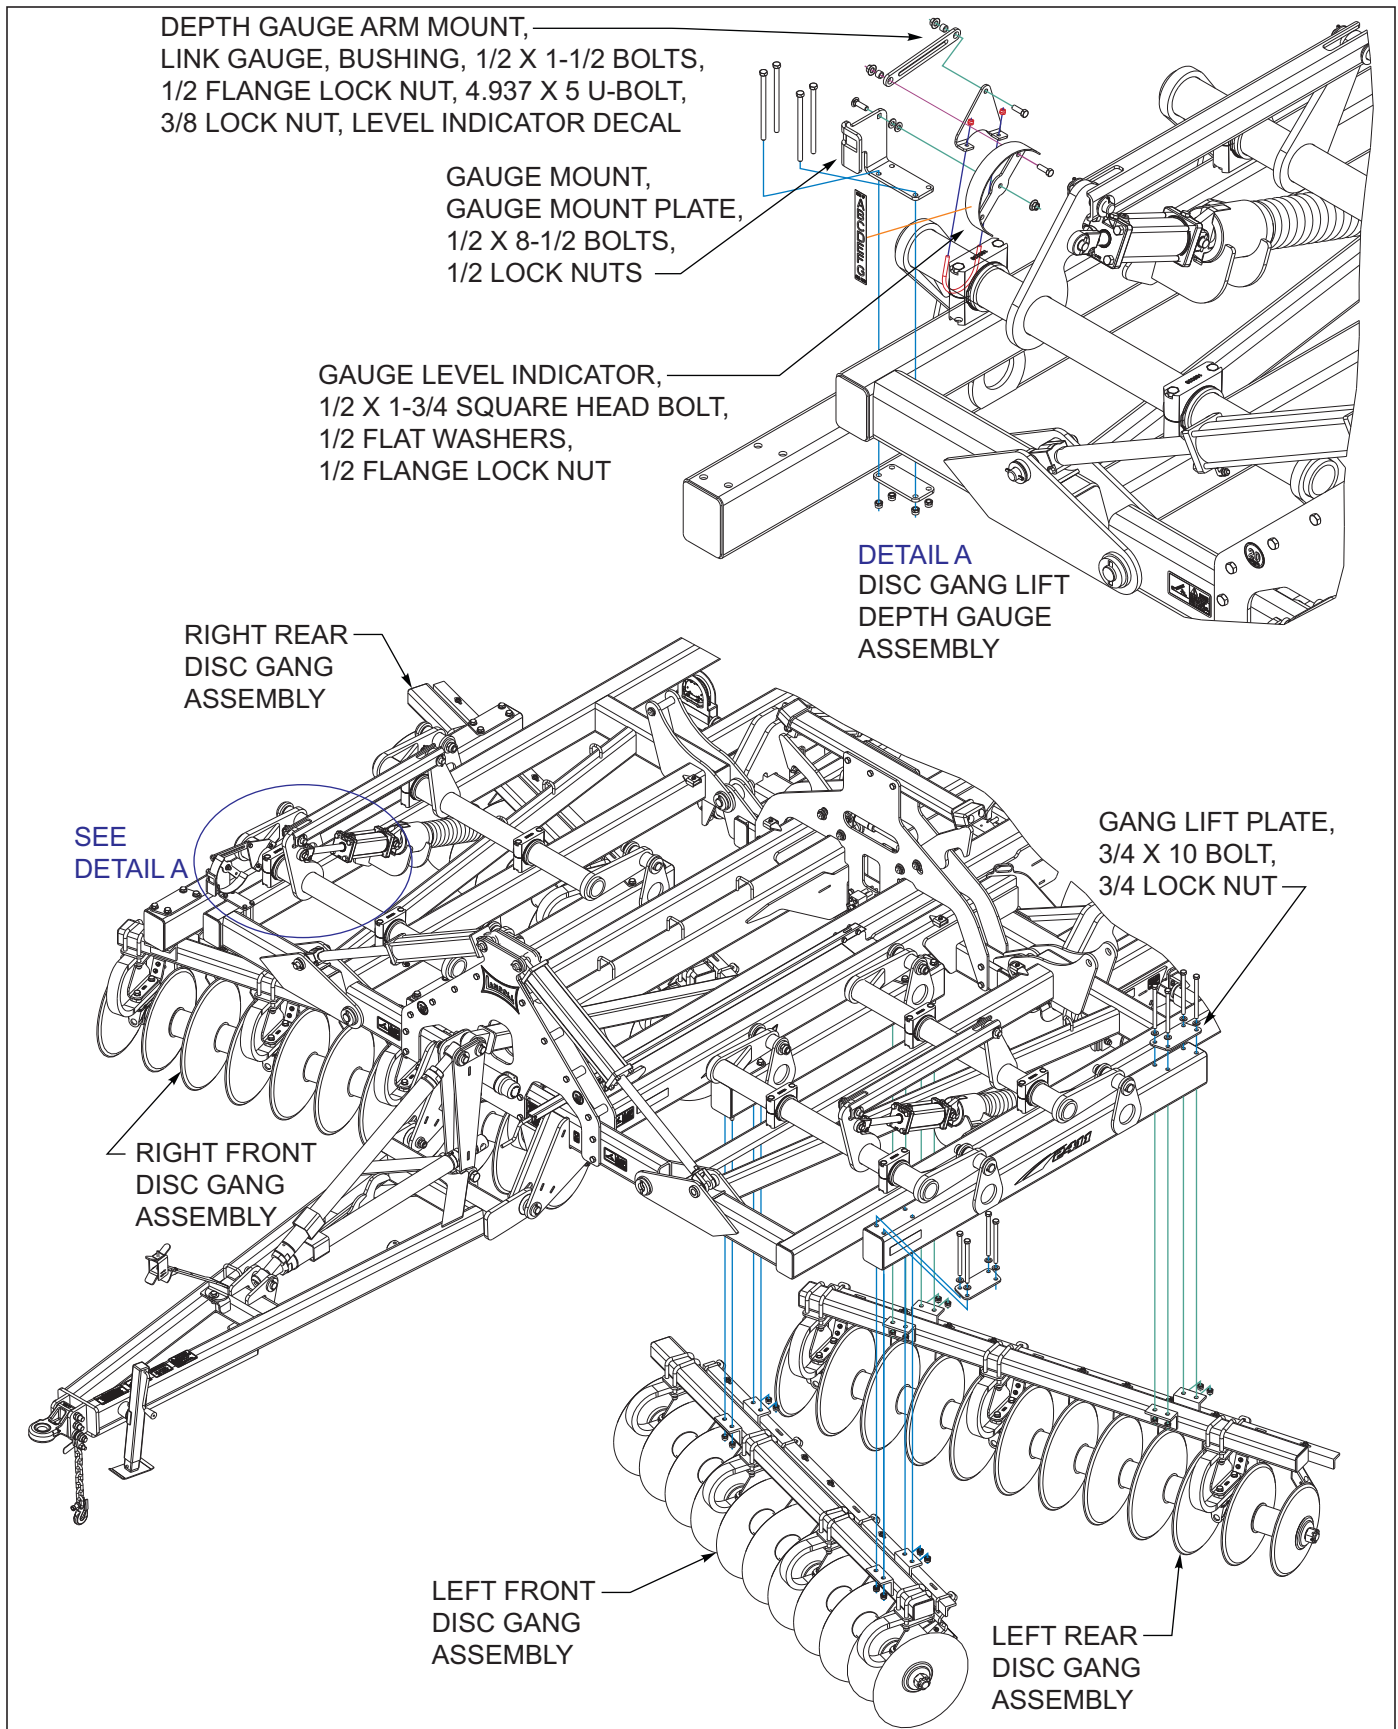

Figure 3-14: Disc Gang & Gauge to Frame Installation 2411AFG-07-09
5. Models 2411AFG-07-09, attach the disc gang gauge to the right front of wing frame, *See Figures 3-14*. Detail A.